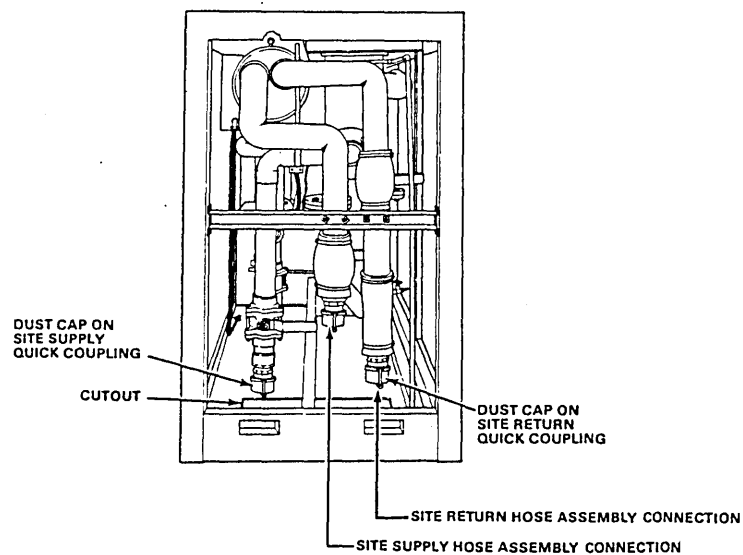

Figure 3-8. Site Water Hose Assembly Connections to Water Cooling Unit(s)
- ___ 1. Remove floor tiles, as required, and pull site water hose assembly ends up and through water cutout into water cooling unit (figure 3-8).